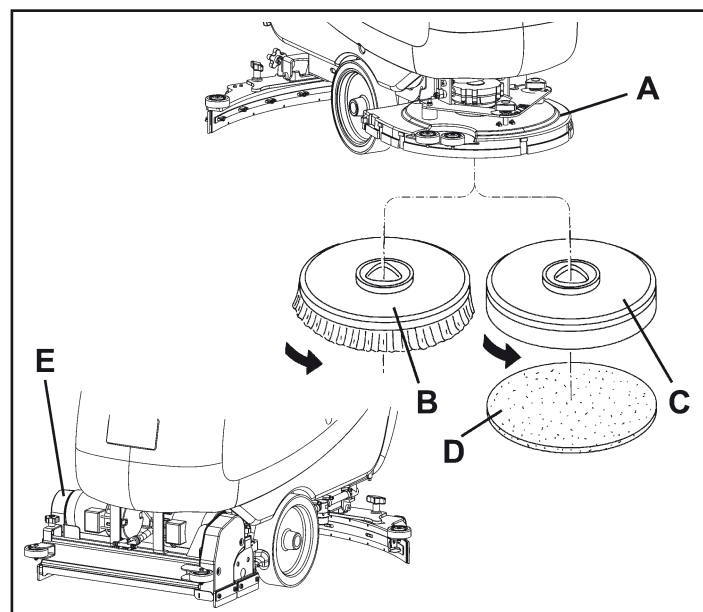
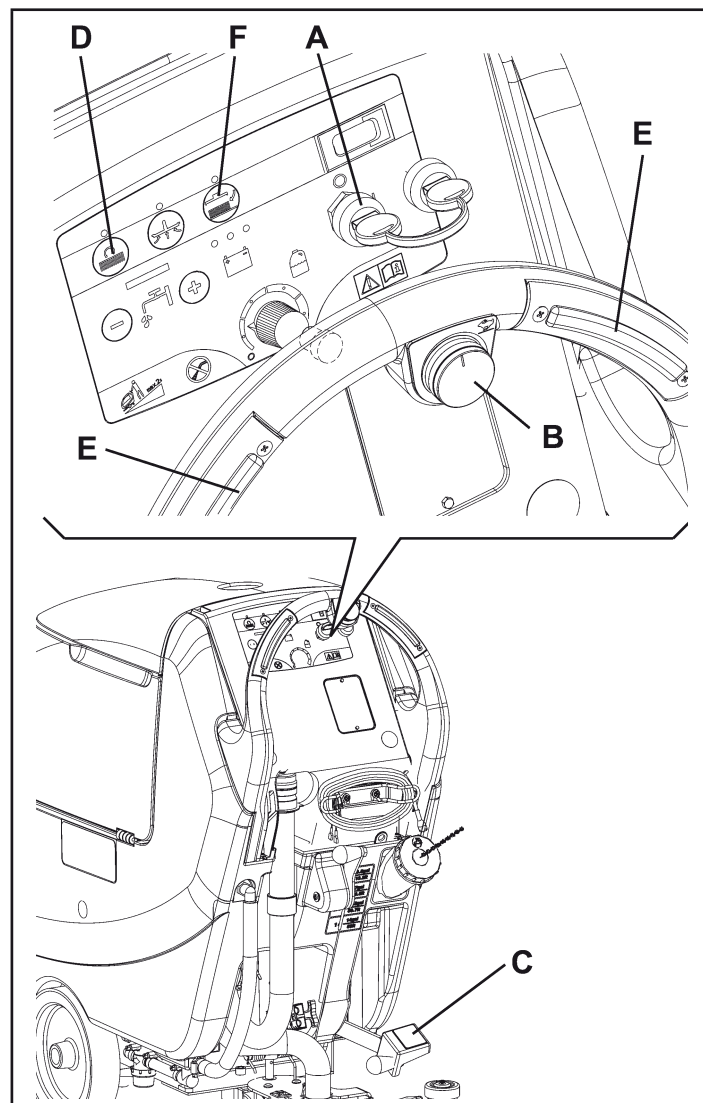

Figure 9
Figure 10
On the machine it is possible to install/remove either the brush/pad-holder deck (A, Fig. 9) or the cylindrical brush deck (E).
1. According to the kind of cleaning to be performed, the machine can be equipped either with brushes (B) or pad-holders (C) with pads (D) together with the appropriate deck.
2. Insert the ignition key (A, Fig. 10) and turn it to "I".
3. If equipped, turn the speed adjuster (B) to idle by turning it counter-clockwise.
4. Place the brushes (B, Fig. 9) or the pad-holder (C) under the 17 in / 20 in (430 mm / 530 mm) deck (A).
5. Lower the deck on the brushes/pad-holders by pressing the pedal (C, Fig. 10).
6. Turn the ignition key (A) to "I".
7. Press the brush/pad-holder switch (D).
8. Press one of the switches (E) to engage the brush/pad-holder, then release it. If necessary, repeat the procedure until the brushes/pad-holders are engaged.
(Only for FOCUS II L17, FOCUS II L20): Turn the speed adjuster (B, Fig. 10) counter-clockwise to drive the machine at the minimum speed.